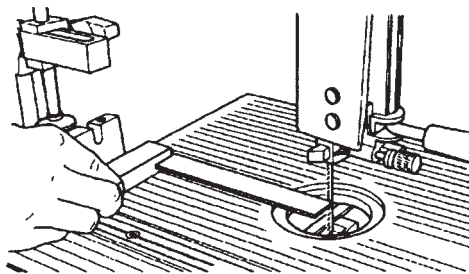

Figure A-17
1. With the miter gauge still in the T-slot, place the precision square against both the face of the miter gauge and the blade. See Fig. A-17.